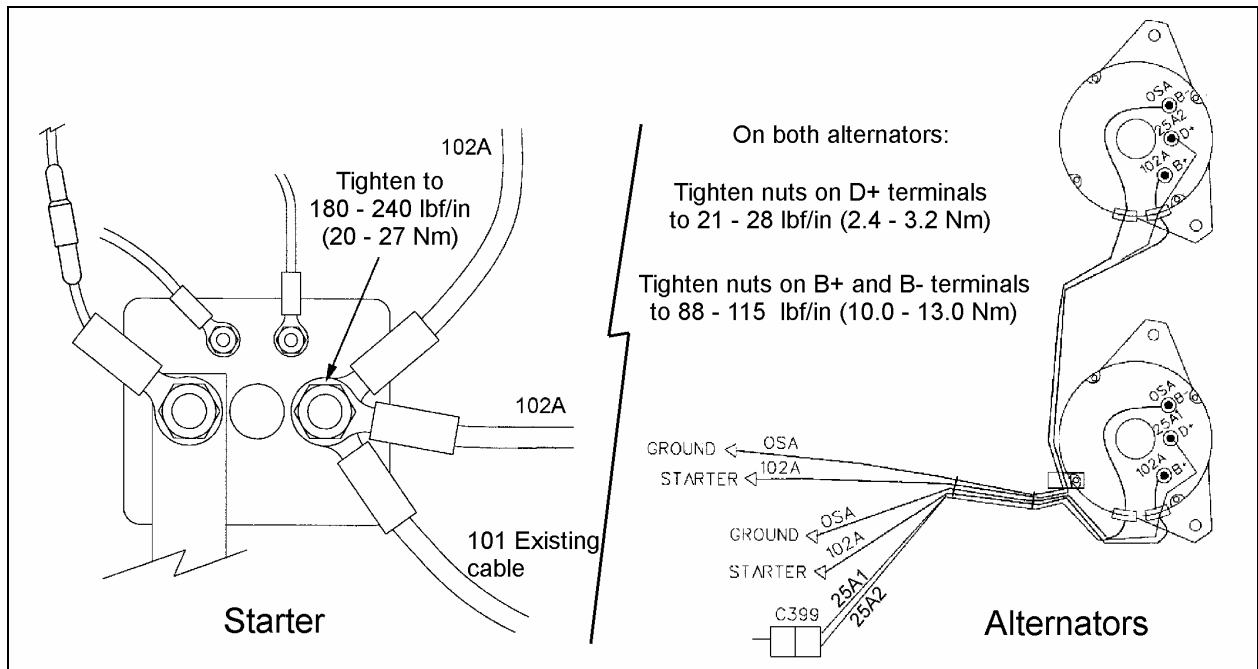

FIGURE 17: INSTALLATION OF WIRES ON THE STARTER AND ALTERNATOR
12. In the engine compartment, with the alternators installed, connect one of two 102A wires to the B+ terminal on each alternator and tighten the terminal nut to 88 – 115 lbs-in (10.0 – 13.0 Nm), (refer to figure 17). Connect the other end to the battery terminal on the starter solenoid and tighten the terminal nut to 180 – 240 lbs-in (20 – 27 Nm);
11. In the engine compartment, with the alternators installed, connect one of two 102A wires to the B+ terminal on each alternator and tighten the terminal nut to 88 – 115 lbs-in (10.0 – 13.0 Nm), (refer to figure 17). Connect the other end to the battery terminal on the starter solenoid and tighten the terminal nut to 180 – 240 lbs-in (20 – 27 Nm);